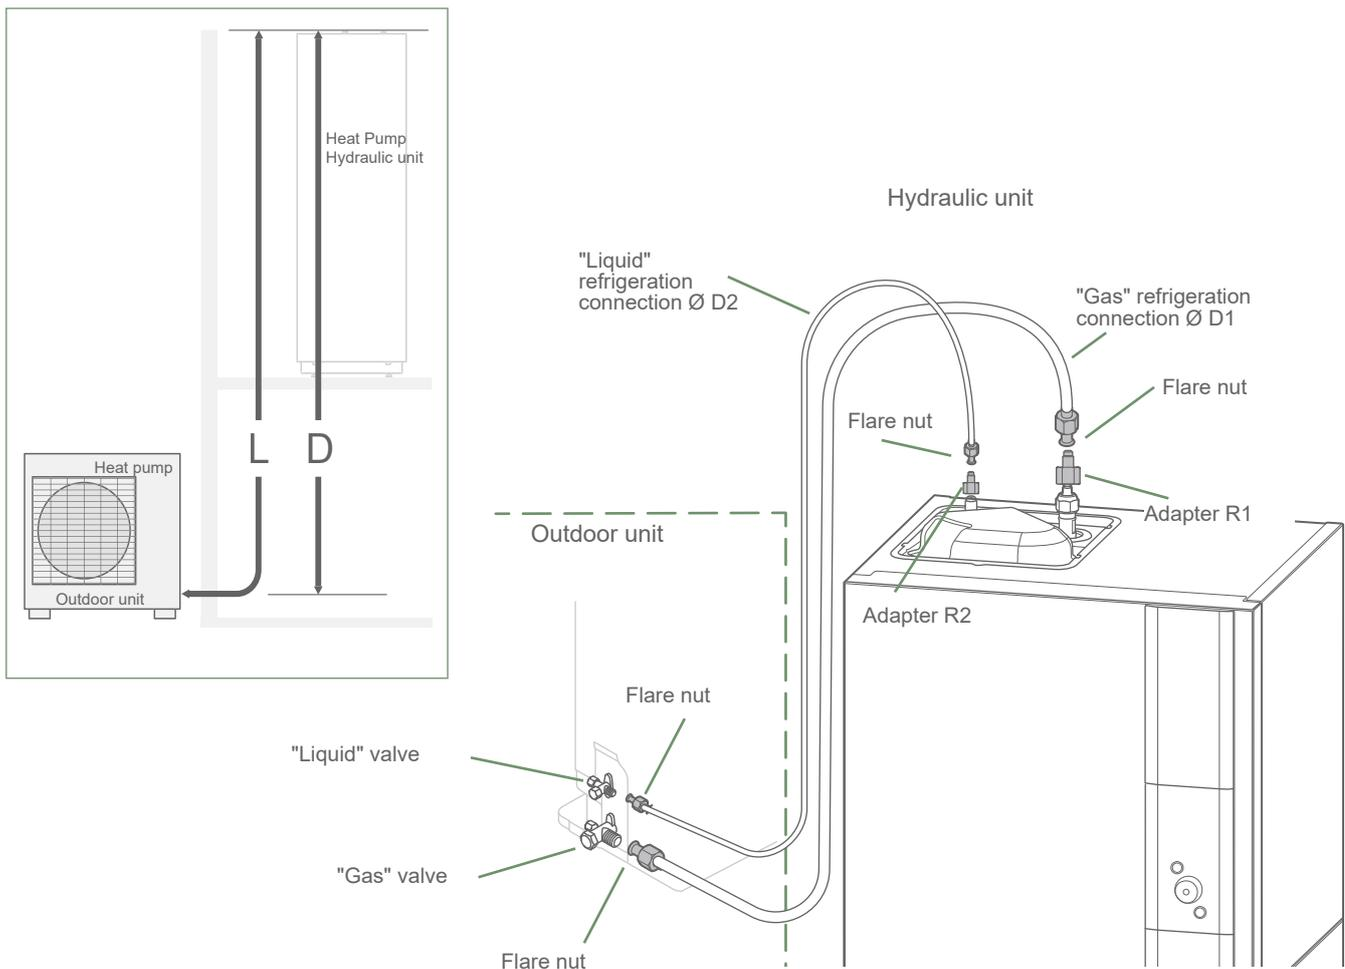

fig. 31 - Refrigeration connections (allowed diameters and lengths)
- If appropriate, connect an adapter (reducer) 1/4" - 3/8" or 1/2" - 5/8" (view *fig. 31*).